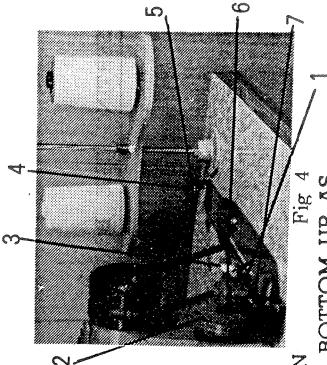

Fig 4
1. PLACE THE BOBBIN (3) ON SPINDLE WINDER.
2. PASS THE THREAD THROUGH THE HOLE (4) OF THE BOBBIN WINDER THREAD GUIDE AND THROUGH THE TENSION DISCS (5) FROM THE REAR.
3. PULL THE END OF THE THREAD AND WIND IT AROUND THE EMPTY BOBBIN SEVEN OR EIGHT TIMES FROM THE BOTTOM UP AS SHOWN BY THE ARROW IN FIG. 4.
4. PUSH THE BOBBIN WINDER LEVER (1) DOWN UNTIL THE BOBBIN WINDER WHEEL (2) PRESSES AGAINST THE DRIVE BELT.
7. YOU CAN EASILY ADJUST THE MAXIMUM QUANTITY OF THREAD TO BE WOUND UP ON THE BOBBIN BY ADJUSTING THE SCREW (7) WHICH CONTROLS LATCH (6).
8. IF THE THREAD DOES NOT WIND EVENLY ON THE BOBBIN. ADJUST THE POSITION OF THE BOBBIN WINDER THREAD GUIDE (4) BY MOVING IT TO THE RIGHT OR LEFT AFTER LOOSENING THE SCREW.